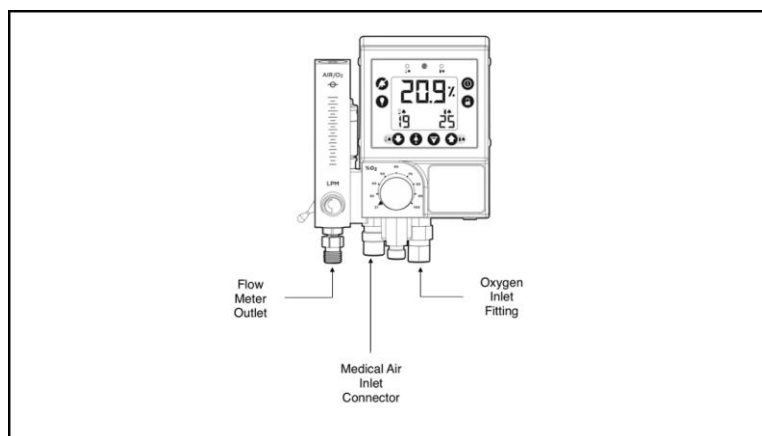

FIGURE 26-A: OXYGEN BLENDER
2. Attach the Oxygen supply line, Air supply line, and DISS Barbed fitting as indicated in the user manual (shown in **Figure 26-A: Oxygen Blender**).